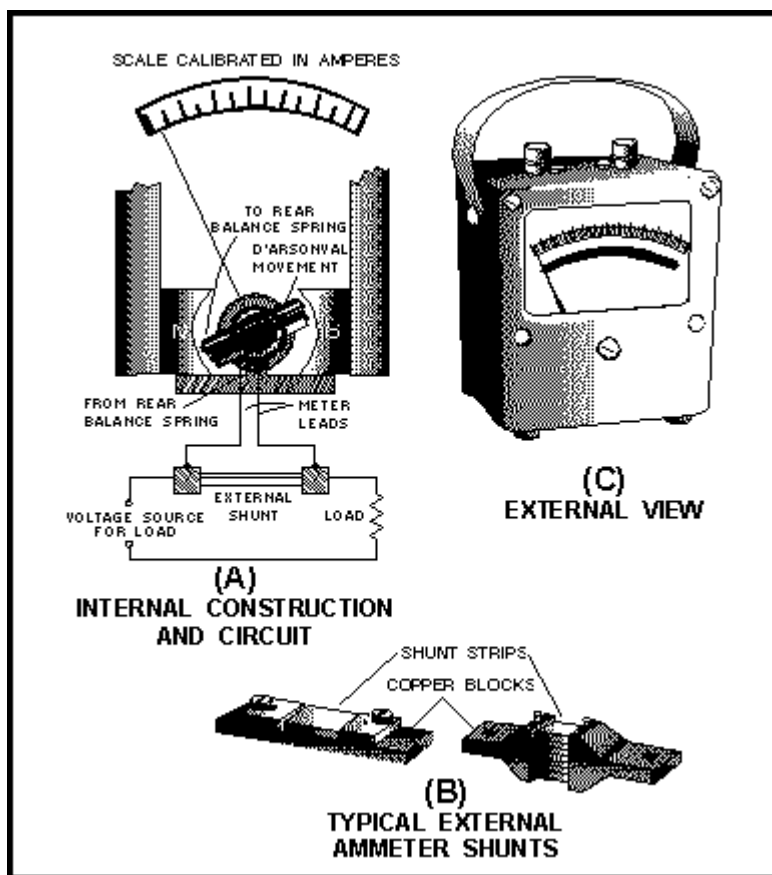

Figure 3-4.—Dc ammeter using the D'Arsonval movement with external shunts.
**EXTERNAL SHUNTS.**—An external-shunt circuit is shown in figure 3-4, view A. Typical external shunts are shown in view B. View C shows a meter movement mounted within the case. The case provides protection against breakage, magnetic shielding in some cases, and portability.
**SHUNT CONSTRUCTION.**—The shunt strips (view B of figure 3-4) are usually made of the alloy *Manganin*. Manganin has a temperature coefficient of almost zero. The zero-temperature coefficient property is desirable because of the heavy currents that often flow through shunts producing heat. A zero-temperature coefficient material is not affected by this heat; therefore, it remains stable in temperature. Most other materials increase their resistance as they are heated. If shunts were made of these materials, they would carry less current. More and more current would flow through the meter movement, and the chances of damage would increase. Using shunts constructed with zero-temperature coefficient materials eliminates this problem.